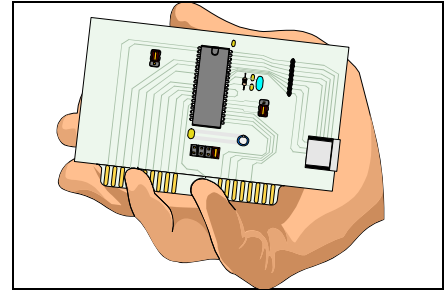

Figure 1: Always handle PC boards by the edges.
7. PC board assemblies should be handled by the edges. Avoid touching the circuits or components. (See Figure 1).